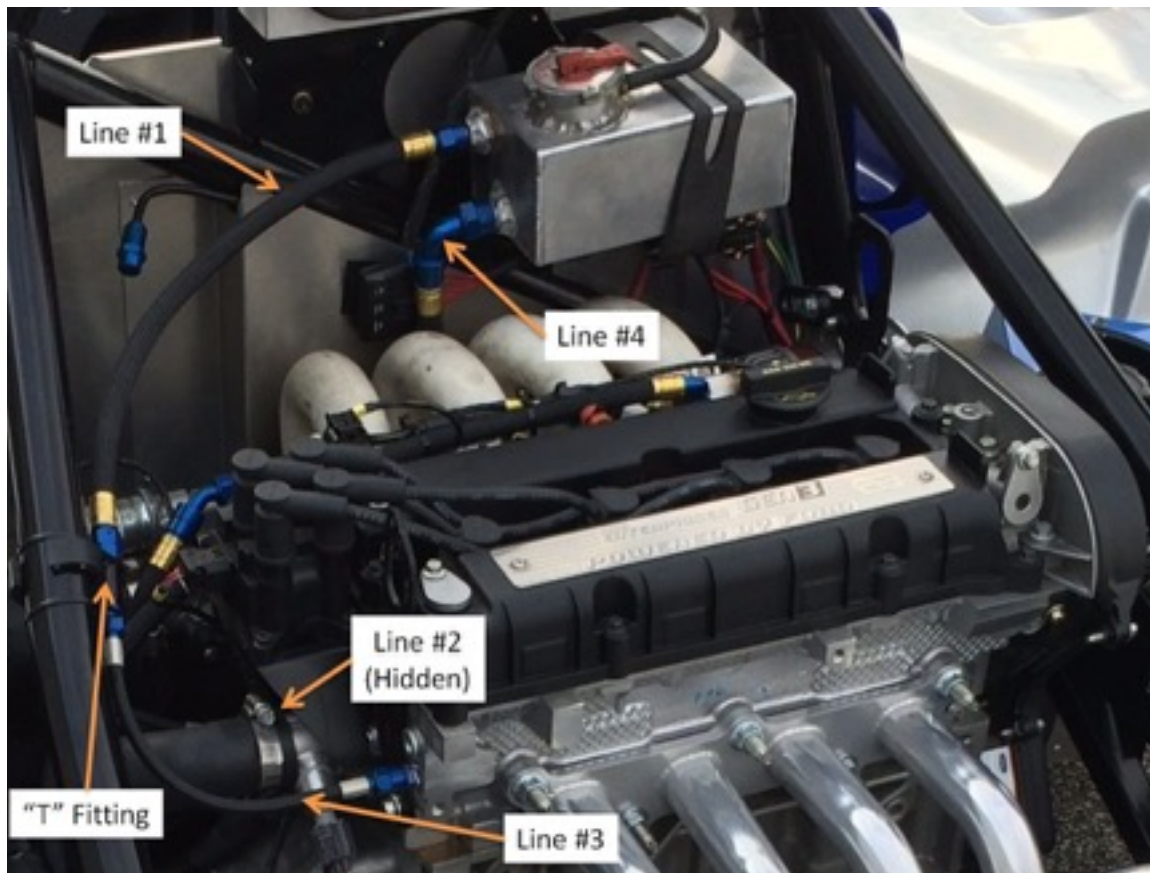

Figure 34 – New Water Lines (Custom lines shown)
98. Assemble new water line #1: Using a -6 straight fitting (Part # 2x 691928), -6 hose (Part # 698001A), and 1 -6/-4/-6 “T” fitting (Part # G691943). This hose runs from the -6 on the surge tank over to the T fitting that can be located along the left side rear roll bar of the engine bay. The approximate length of this hose is 17”. See Figure 34
100. Assemble the new water line #3: Using -4 straight fittings (Part # 2x G691927) and the -4 hose (Part # G691926). The approximate length is 10” but is dependent on where you mount the T fitting. See Figure 34